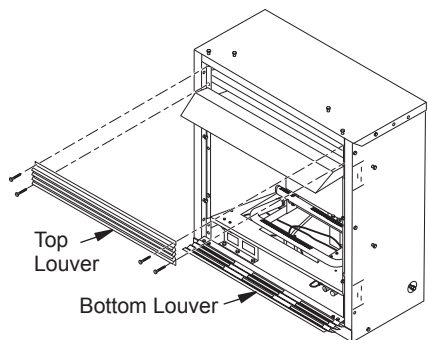

Figure 12 - Removing Top Louver and Opening Bottom Louver
Built-in installation of this fireplace involves installing fireplace into a framed-in enclosure. This makes the front of fireplace flush with wall. An optional brass trim kit accessory is available (see *Accessories*, page 44). Brass trim will extend past sides of fireplace approximately 1/2 inch. This will cover the rough edges of the wall opening. If installing a built-in mantel above the fireplace, you must follow the clearances shown in Figure 12, page 12. Follow the instructions below to install the fireplace in this manner.
1. Unscrew four screws that attach top louver to fireplace. Remove louver from fireplace and set aside (see Figure 12).
- Remove 4 screws from upper louver (see Figure 12, page 12). Save these screws.
- Open lower louver door by swinging door down (see Figure 12, page 12).
10. Reinstall upper louver beginning with bottom screws (see Figure 12, page 12). Close lower louver door.
6. Reinstall upper louver beginning with bottom screws (see Figure 12, page 12) and close lower louver.